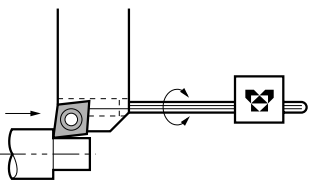

Fig. 1
1. Lock Screw can be operated from back side and it realizes very easy Insert replacement and application to Swiss-type Automatic Lathe (Fig. 1)